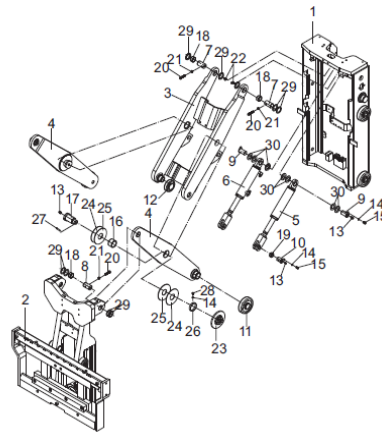

Figure 4-8-8 Diagram of telescopic fork
The forward reaching cylinder connects inner fork plate or landing bracket assembly (the item 5 and 6 in figure 4-8-8 are left and right forward reaching cylinder respectively). The forward reaching cylinder also is a double-action piston type cylinder. Be care when carrying out any repair. If there is abnormal leakage on the cylinder cover or the cylinder can not tilt, remove the cylinder form truck for repair.